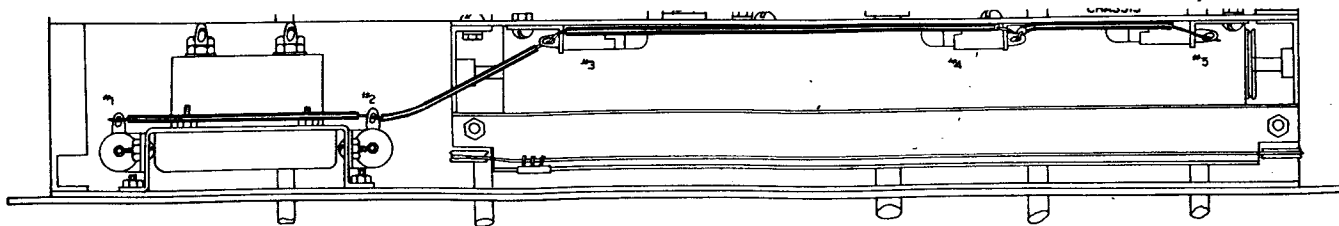

Figure 15
- (✓) Install 5 #47 pilot lights, as shown in Figure 15.